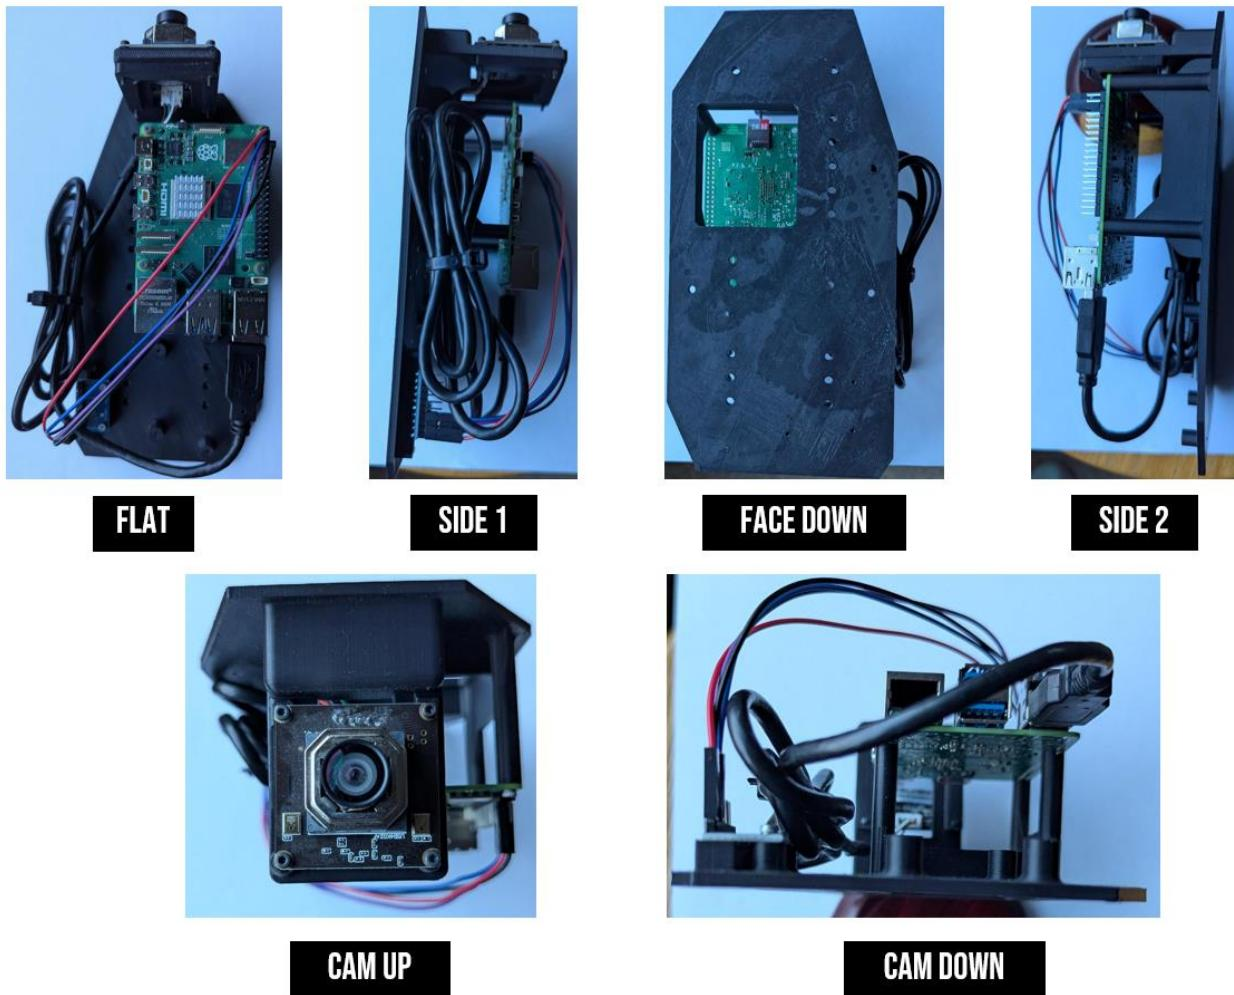

Figure 29. IMU calibration positions for system.
- b. To make things easy, the 6 positions you can use are illustrated in Figure 29:
3. To test the results, run the IMU/misc/testimu.py script. This will output accelerations in x, y, z. If your system is in the flat position, as in Figure 29, and on a flat surface, you should expect outputs like this: